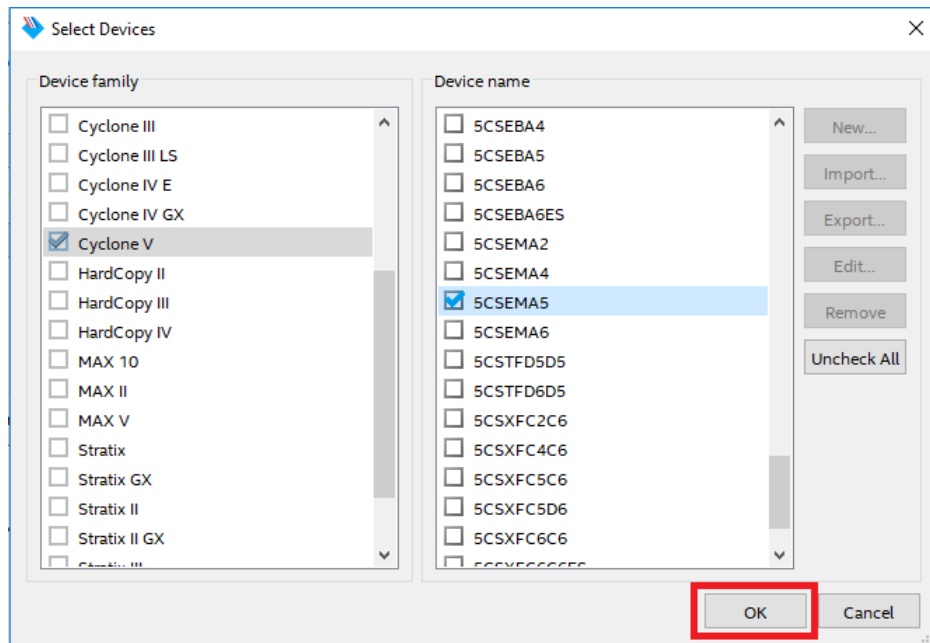

Figure 6: Convert SOF to JIC - Step 6
6. A window to select the device will open. Under 'Device family' select 'Cyclone V', and under 'Device name' select '5CSEMA5', as shown in Figure 6.